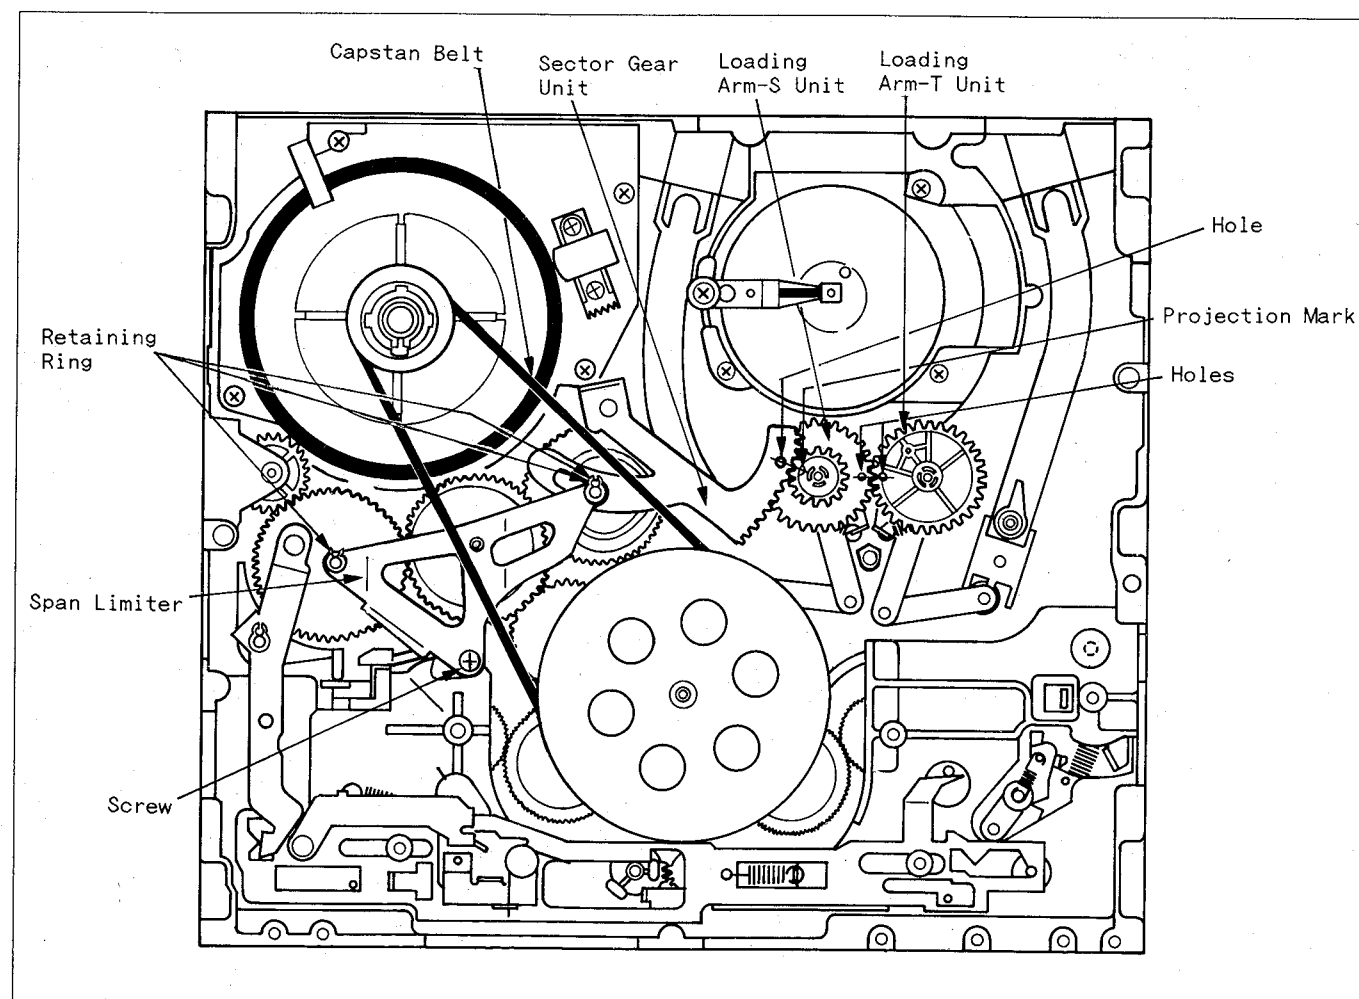

Fig. A7
3. Install the Span Limiter using Retaining Rings and Screw, Fig. A7.